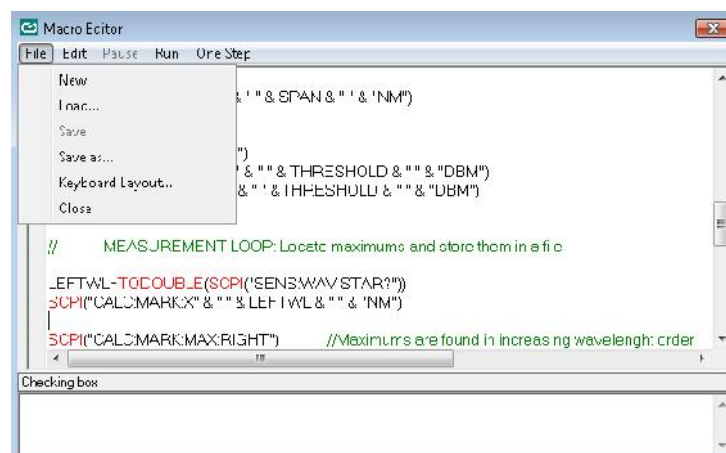

Fig. 8.1 Macro Editor.
- 2 Press *Macro Editor* button. The interface of the *Macro Editor* will appear (fig 8.1)
- 3 Remove the optical adapter pushing upwards the horizontal metal bar below the connector. With special care pull out the adapter to extract it from the front panel. Please, refer to figure 8.1